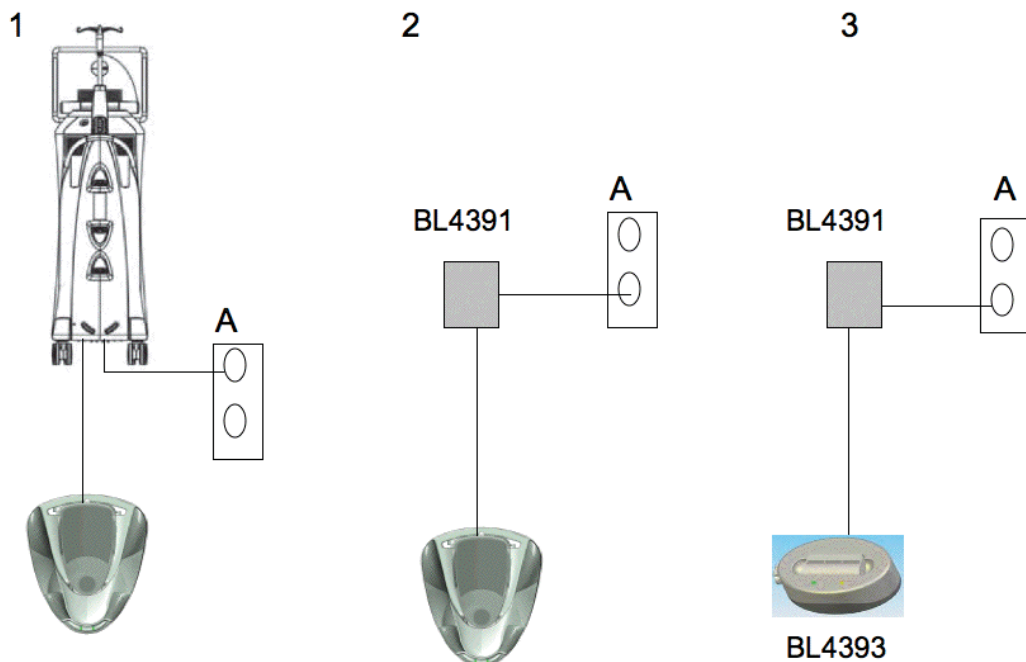

Figure 1.34. Foot Control Battery Charging Options.
- With the system power cord plugged in to the electric source and the Foot Control connected to the system; the battery will be charged if the main power switch is turned ON. This charging method applies with or without the Graphical User Interface being turned ON. See Option 1 in Figure 1.34
- The Foot Control can be directly connected to the wall charger. Connect the wall charger cable into the back of the Foot Control, into the same receptacle used for the backup cable. See Option 2 in Figure 1.34.
- With an extra battery and battery charging cradle, you can connect the wall charger cable to the battery charging cradle. A green light indicates the cradle is on, a second light is yellow when charging is in progress, and green when the battery charging is complete. Once the battery is fully charged, you can take it out of the cradle and replace the battery in the Foot Control. See Option 3 in Figure 1.34.